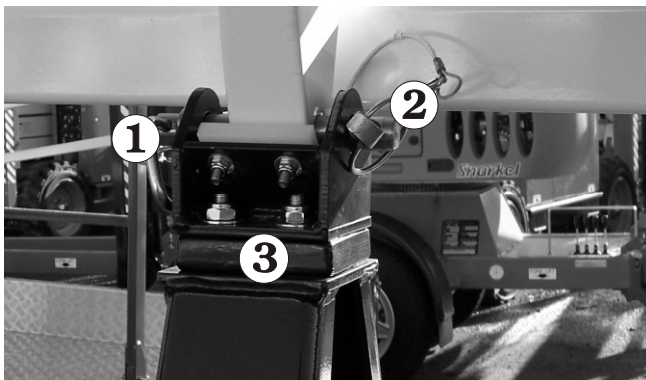

Figure 12.2 - Lower Boom Cradle Lock
3. Insert the lower boom pin **1** in place (see Figure 12.2) and ensure the pin keeper **2** is correctly locked in place through the boom pin.